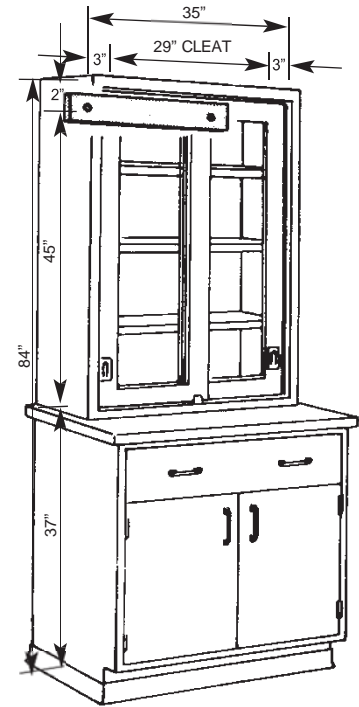

FIG. 6
2. First position and level the base cabinet(s) and work surface(s). Determine the exact location of the cabinet(s), and mark the desired location of the top left corner on the wall. Locate wood cleat 2" below and 3" to the right of this mark (see Figure 6).